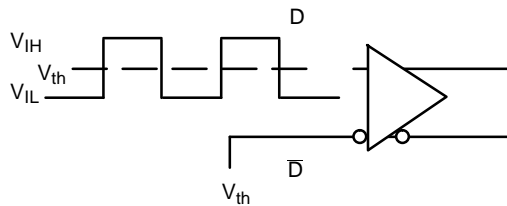

Figure 10. Differential Input Driven Single-Ended
**DIFFERENTIAL INPUTS DRIVEN SINGLE-ENDED** (Figures 10 and 12)